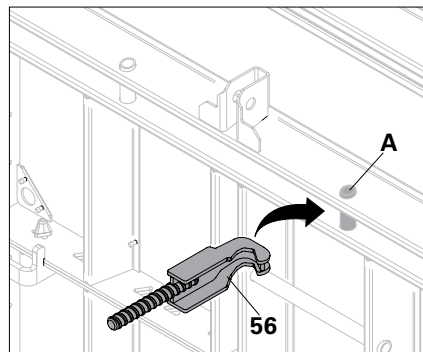

Fig. A4.24a
1. Install the waler hook HSA (56) to the stiffener pipe (A) of the panel. (Fig. A4.24a)